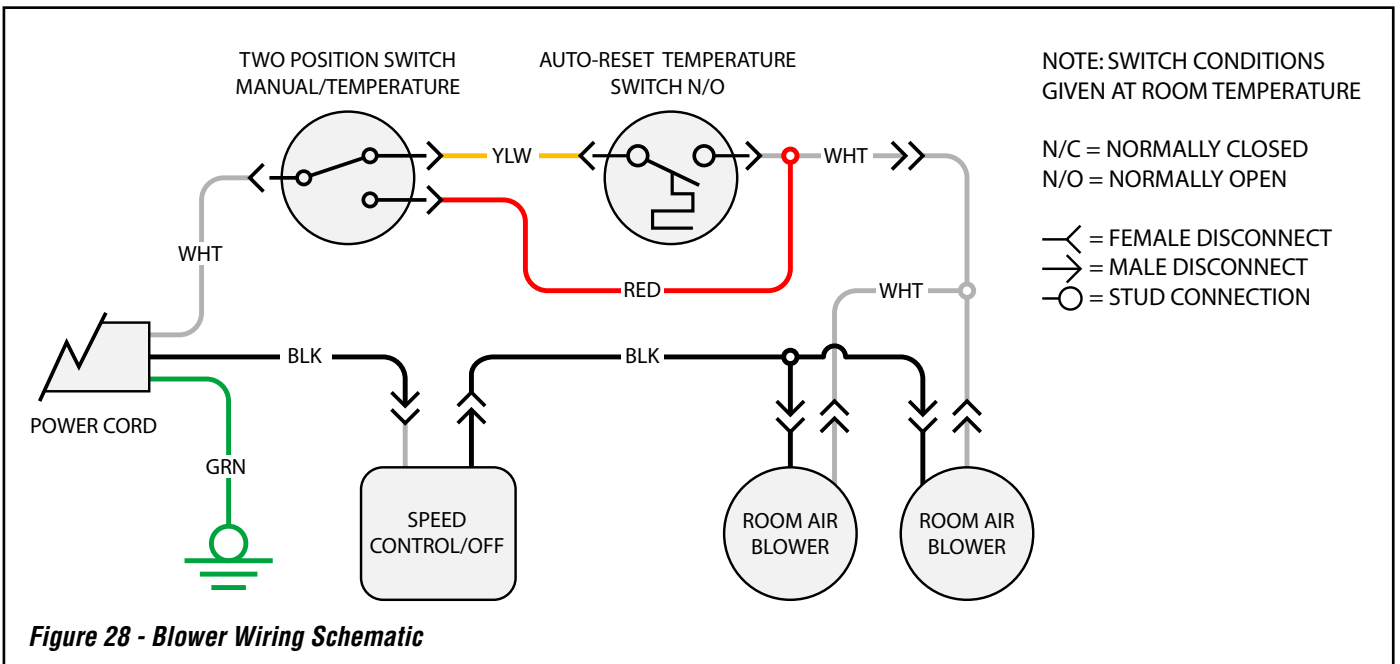

Figure 28 - Blower Wiring Schematic
7. For best results, use smaller pieces of wood to get the appliance temperature very high before loading larger wood for sustained burns. If necessary, crack the door to allow ignition of the fuel charge. Do not leave the unit unattended while the front door is slightly open. Now you can add larger pieces of wood and after several minutes of high burn, set the left control for the desired heat output. Check the exhaust in about 15 to 20 minutes (see **Figure 28**). Large amounts of smoke indicate an improper burn setting (either too high or too low). Adjust and recheck in 5 to 10 minutes.